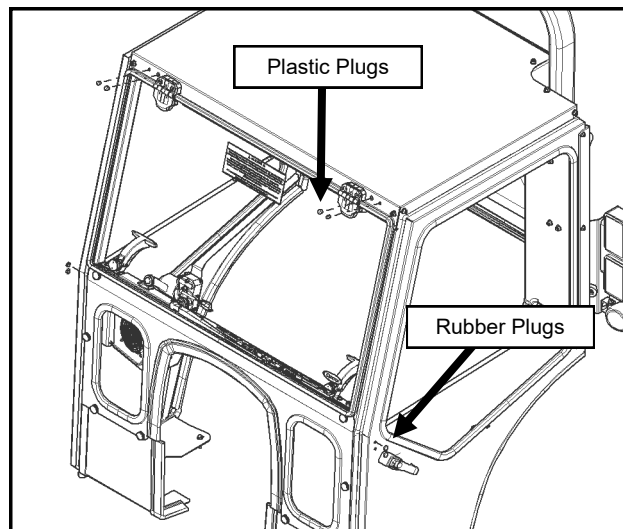

Fig. 21.1 (Install Plugs)
21.1 If installing accessories, please do so now. If not, use the supplied plugs to cover any exposed holes. See Figure 21.1.